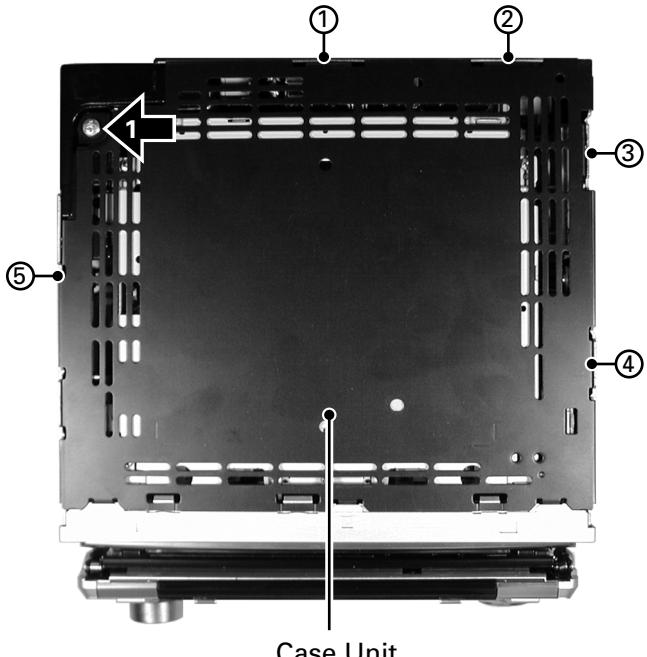

Fig.1
● Removing the Case Unit (Fig.1)
*) Release the latches in order of the number indicated in Fig.1.